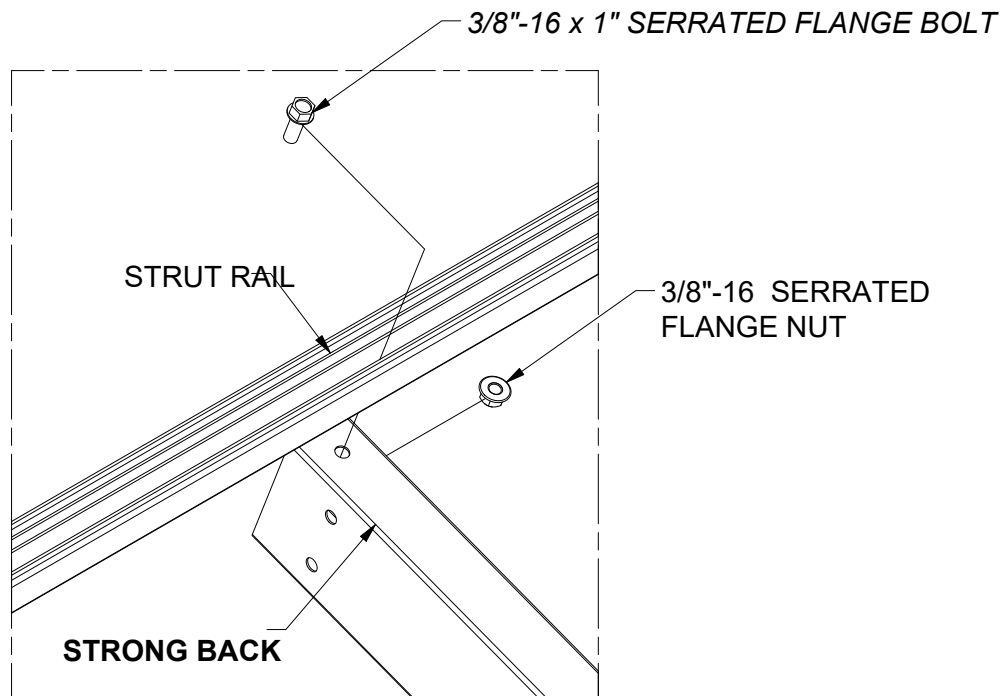

Figure 18: Strut Rail to Outer Strong Back
5. Then bolt the other end of the Strut Rail to the end Strong Back with bolts and nuts. Refer to Figure 18 below.